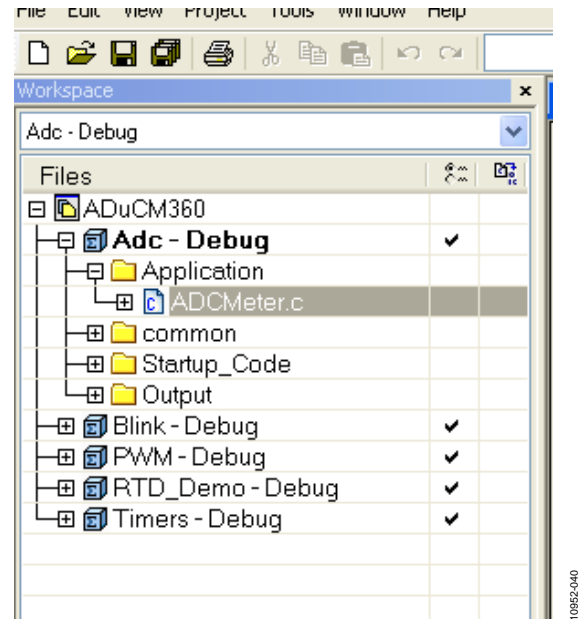

Figure 41. Individual Projects
2. After a few seconds, the workspace opens and the individual projects are launched as shown in Figure 41.